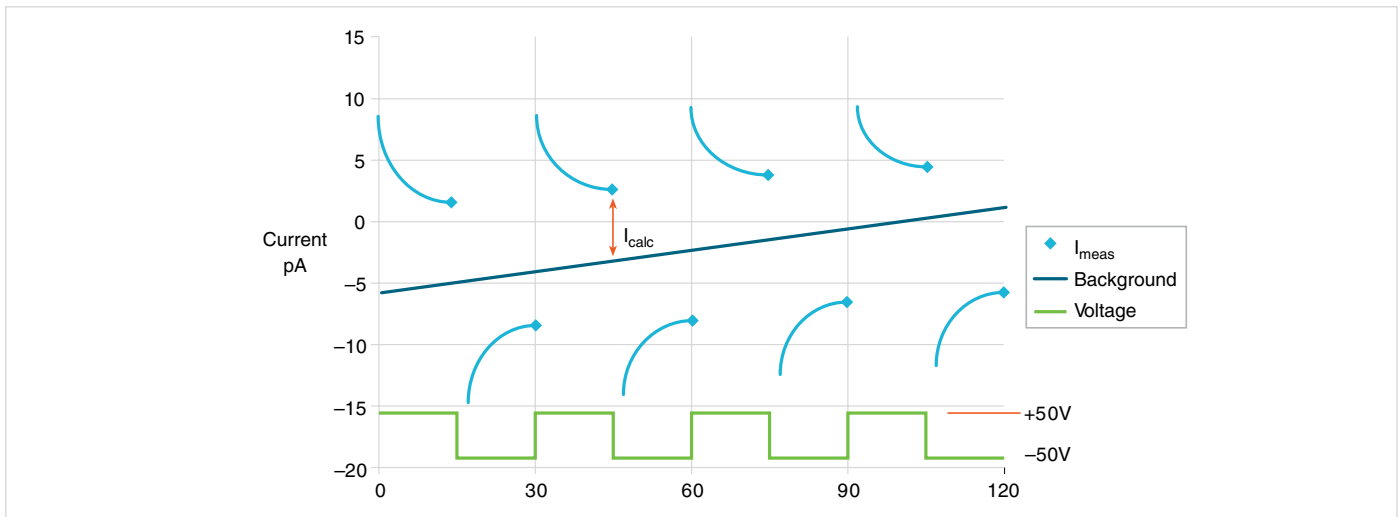

Figure 5.
**Figure 5** shows an example of the Alternating Polarity test using the test parameters shown and the resulting sample current from a typical high resistance sample. Note that the sample currents shown exhibit some capacitive delay, as many high resistance samples also tend to have significant capacitance.